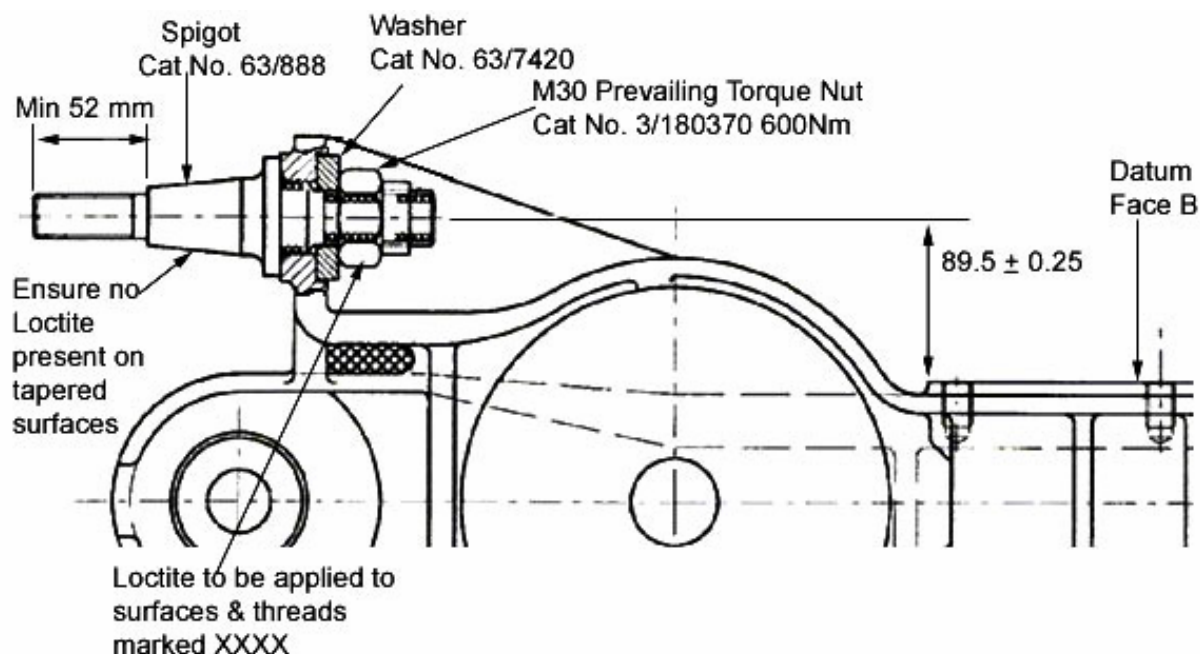

Figure 5: Lateral Control Rod Spigot
- E3 Check that the distance from the shoulder to the end of the spigot is at least 52mm (see Figure 5).
- E.4 Measure the position of the centre line of the spigot in relation to the axle box rear face datum 'B', see Figure 5. The lateral offset shall be within 89.5 ± 0.25 mm.
- E.1.3.2 Apply Loctite 2701 adhesive (Cat No. 007/056158) to the spigot pin only over the M30 thread and contact surfaces, see Figure 5.